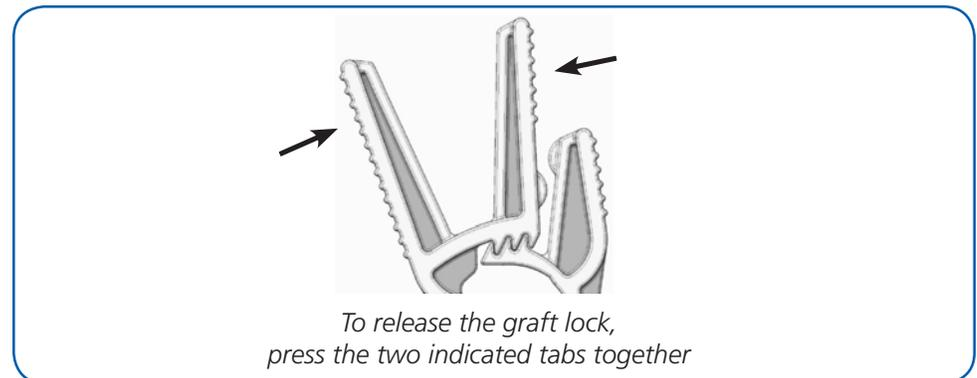

Figure 5.29 Releasing the Graft Lock
13. To remove the introducer, release the graft lock by pressing the two adjacent long tabs together as shown in Figure 5.29 and remove it from the graft.